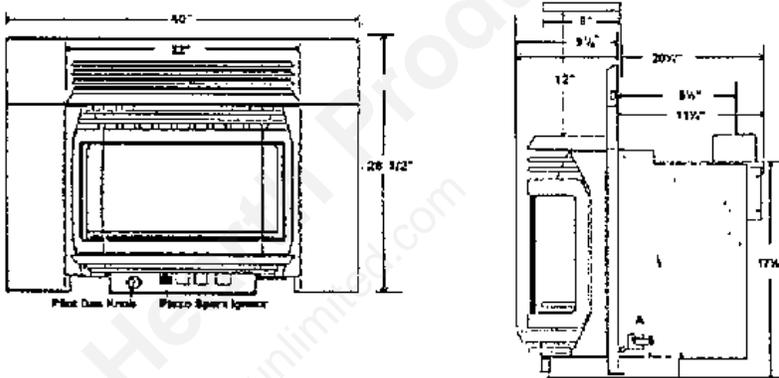

Figure 1
2. Remove the two wood screws that attach the stove to its pallet. These are located through the square openings immediately behind the surround panel mounting bracket on each side of the unit. (#2 Robertson screwdriver) (See A in Figure 1)